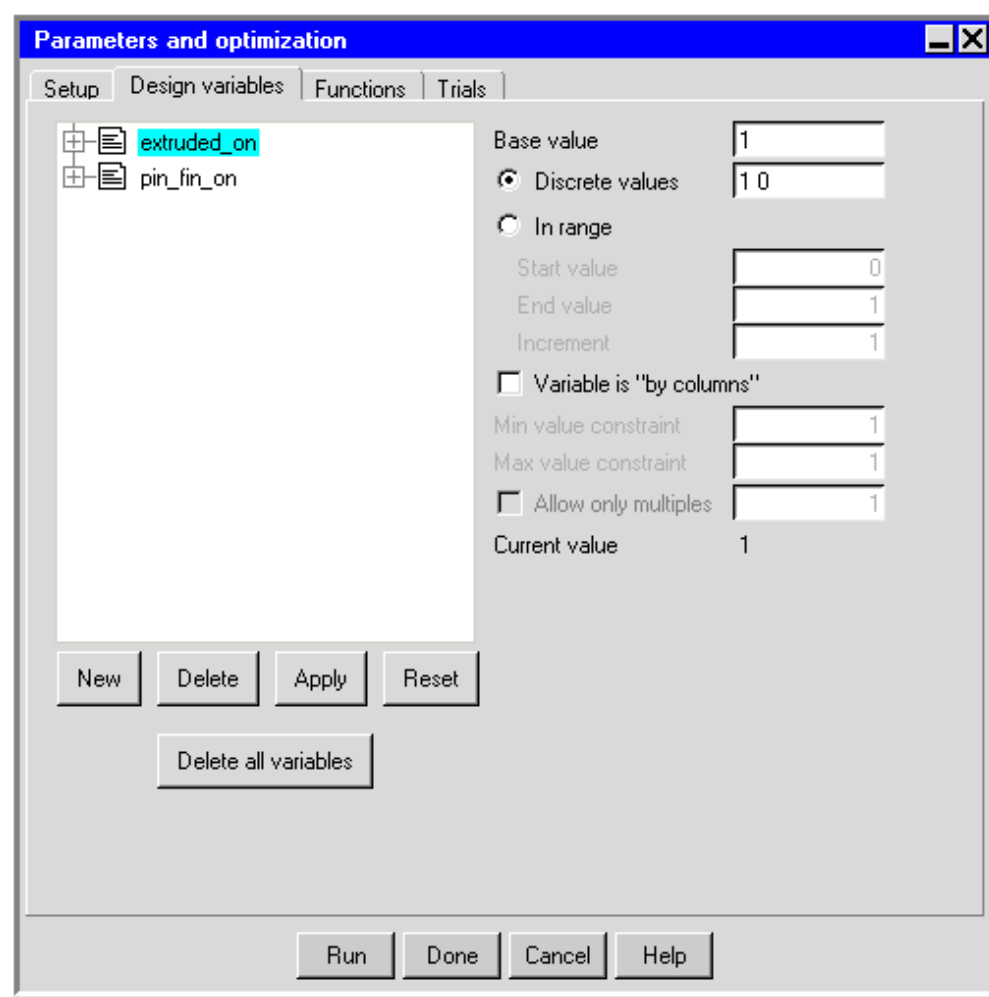

Figure 23.2.2: The Parameters and optimization Panel (Design variables Tab)
- (a) Select the design variable from the list in the **Design variables** tab of the **Parameters and optimization** panel (Figure 23.2.2). Expanding a design variable's tree node displays objects and properties associated with the variable.